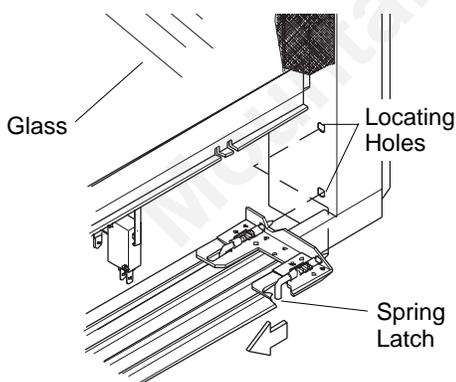

Figure 34 - Removing Louver
1. To remove the louvers, simultaneously pull both top end spring latches towards the center of the appliance until they are disengaged from locating holes. Repeat for bottom end spring latches and pull outward. Reverse the procedure to install louvers back onto the appliance (see Figure 34).